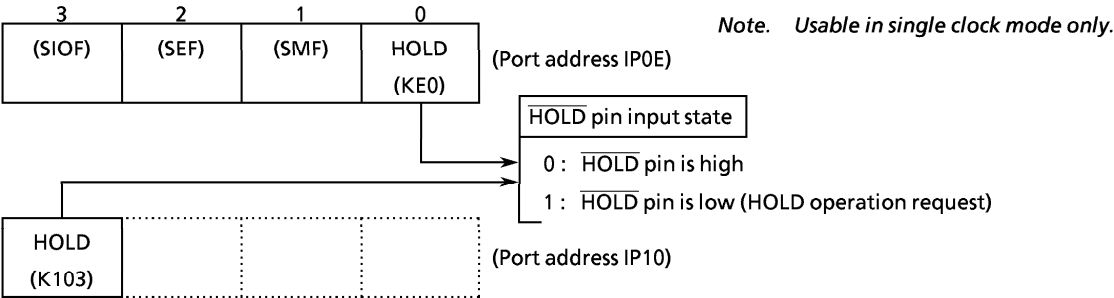

Figure 2-24. HOLD Operating Mode Command Register/Status Register
- ① The high-freq. oscillator starts.
- ② Warm-up is performed to acquire the time for stabilizing oscillation. During the warm-up, the internal operations are all stopped. One of three warm-up times can be selected by program depending on the characteristics of the oscillator used.
- ③ When the warm-up time has passed, an ordinary operation restarts in single clock mode from the instruction next to the instruction which starts the **HOLD** operation. At this time, the interval timer starts from the reset state "0".
- ※ The warm-up time is obtained by dividing the basic clock by the interval timer, so that, if the frequency at clearing the **HOLD** operation is unstable, the warm-up time shown in Figure 2-24 includes an error. Therefore, the warm-up time must be handled as an approximate value.